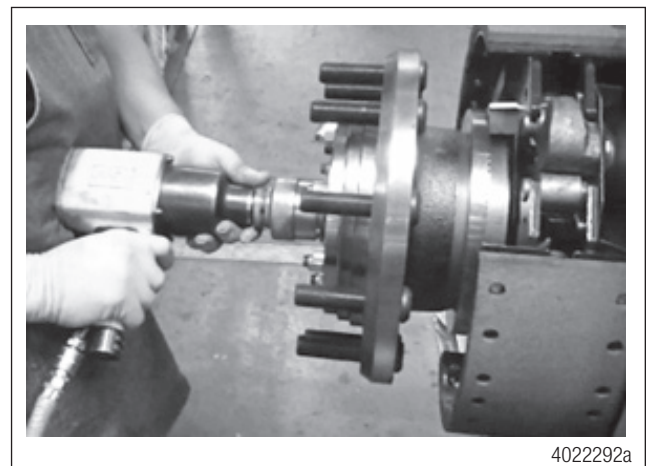

Figure 11
6. Remove the 1-1/4" flanged axle lock nut. Figure 11.